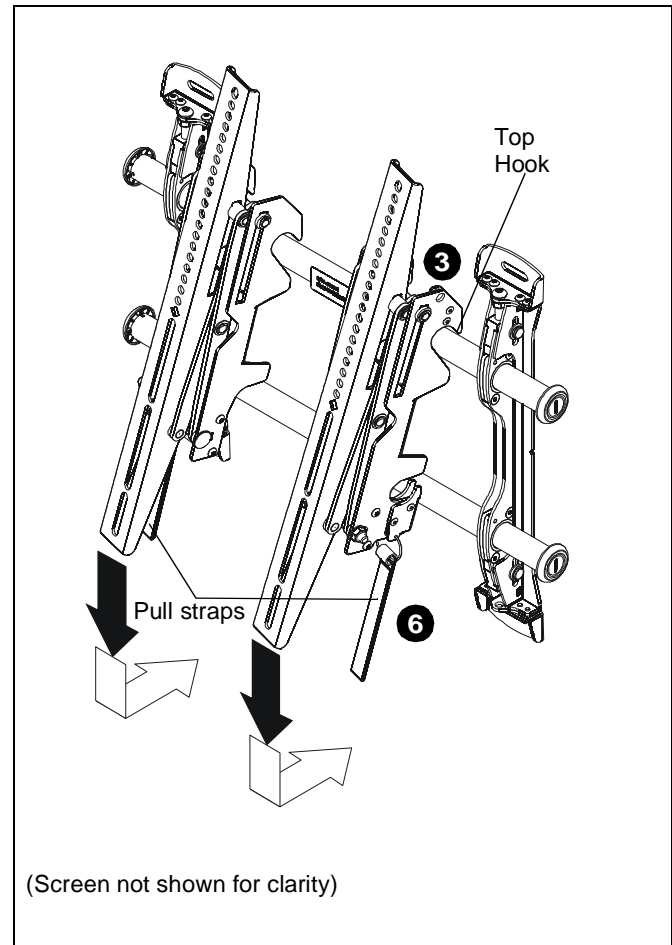

Figure 12
- Pull downward on the pull straps and swing inward toward wall, latching interface brackets to lower bar and locking bottom of screen to the mount. (See Figure 12)
- Hang top hook of interface brackets (U and V) onto the top bar of the mount (R). (See Figure 12)